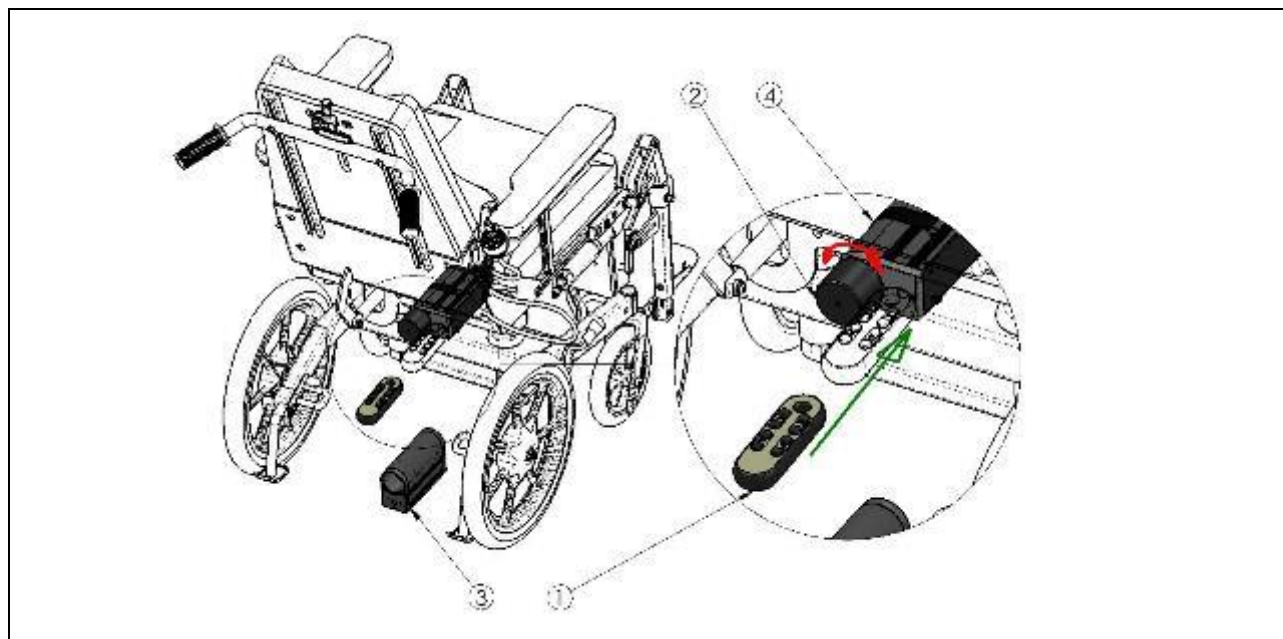

Figure 3
Hold magnet-side at remote top end up against the C3-controller (4) directly where the little round indentation in the plastic is, just next to the battery (2) as shown in Figure 3.
Start-up controller and hold remote (1) close to C3 (4) as shown on the Figure 3. Press on a random button for about 3 seconds to enable a remote (1) for use. C3-controller (4) returns with 1 short sound.
Place remote (1) as shown on the Figure 3, press on a random button for about 15 seconds (after 3 seconds a short sound is emitted but continue to push the button). The C3-controller returns with 2 short sounds. Use of the remote again requires that you proceed with a new enable remote procedure.